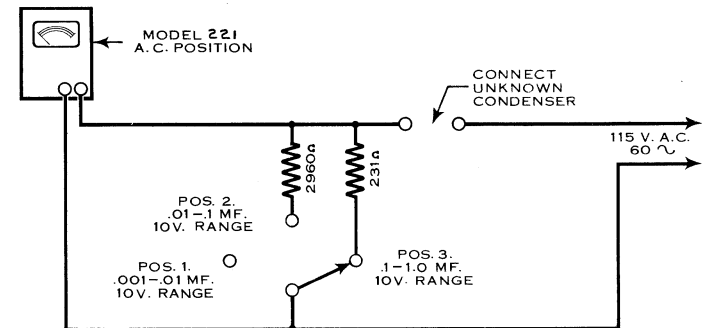

Figure 11 Model 221 Used as Condenser Tester
- b. A rough test of comparative capacity of PAPER condensers can be made with the Model 221 by connecting it as shown in Figure 11. The larger the unknown condenser being tested, the smaller its reactance and therefore the higher the reading will be on the A.C. voltmeter.